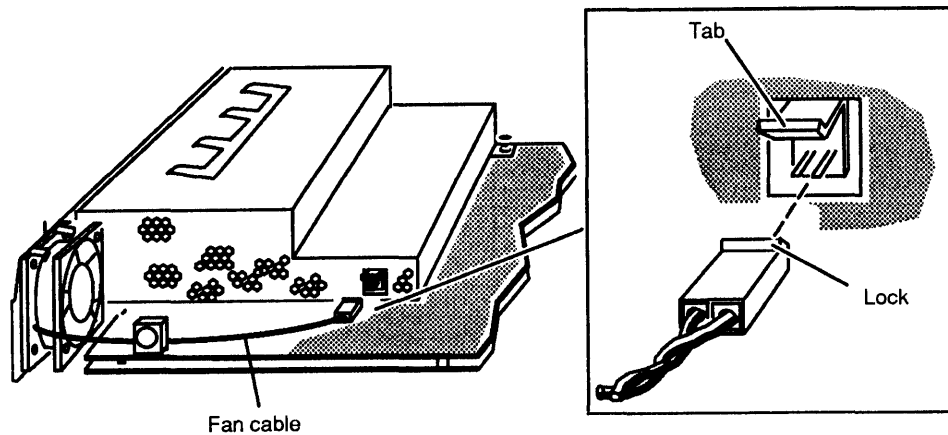

Figure 4-33 Connecting the Fan Cable
7. Connect the fan cable to the power supply, as shown in Figure 4-33.